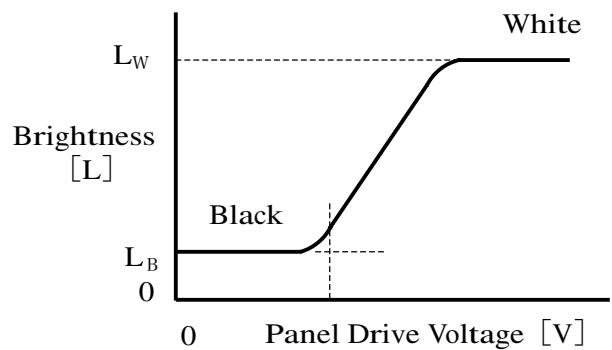

Fig.9-3 Voltage-Brightness Characteristics
**Note 3) Definition of Contrast Ratio (CR)**
Determined by Formula (1) based on Fig. 9-3 Voltage-Brightness characteristics.